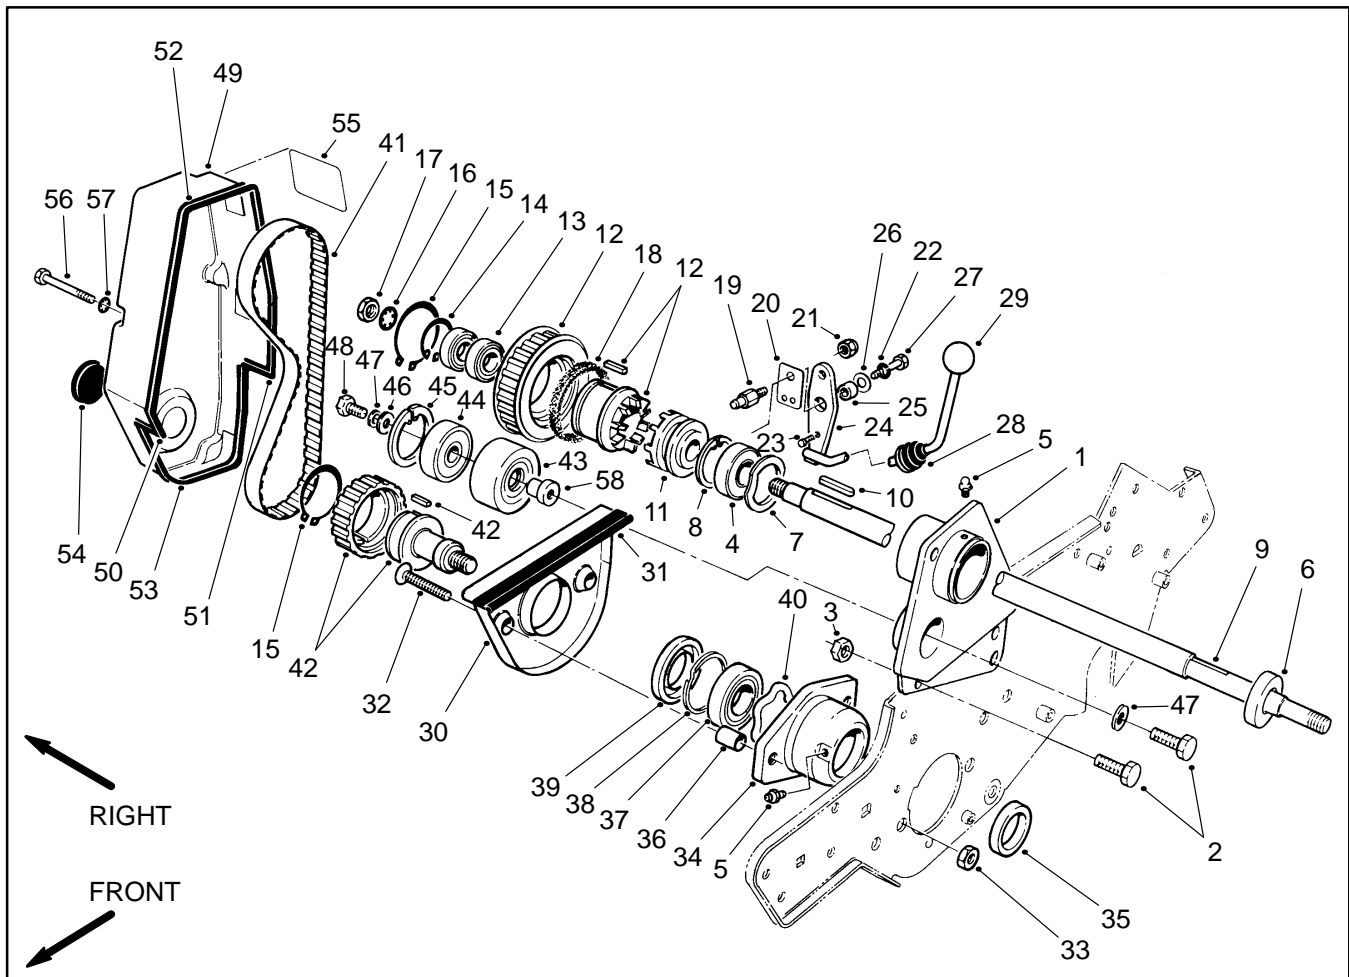
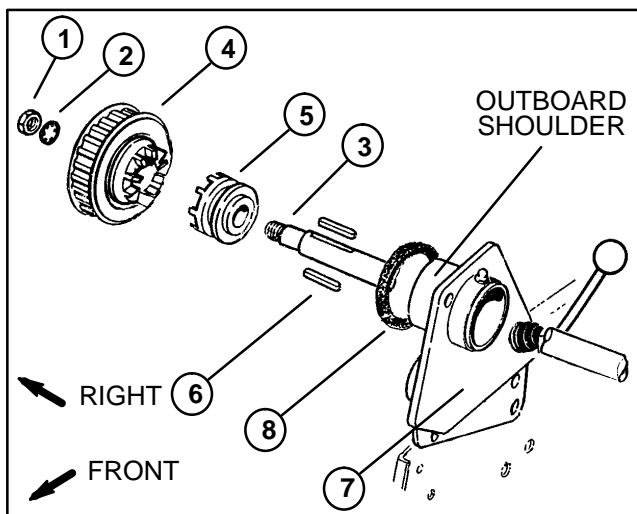

Figure 11
Figure 14
2. Remove cap screws (56), washers (57) and reel drive cover (49) to expose reel drive belt (41) (Fig. 11).
4. Loosen cap screw (2) securing the pulley support spacer (58) (Fig. 11).
2. Remove cap screw (2) and lock washer (47) from the pulley support spacer (58). Remove idler pulley assembly from the clutch housing (Fig. 11).
1. Position cap screw (2) with lock washer (47) into the clutch housing (1). Start cap screw into pulley support spacer (58) of the idler assembly until lock washer just starts to compress. **Do not over tighten (Fig. 11).**
2. Remove clutch lever (24) as follows (Fig. 11):
- A. Remove cap screw (27), lock washer (22), belle-ville washer (26), and spacer (25) from the clutch housing (1). Remove detent spring (20).
- B. Work clutch boot (28) from the clutch housing. Pull clutch lever from the clutch housing.
- C. Replace actuator pin (19) if necessary. Torque lock nut (21) from 45 to 60 in-lb (52 to 69 kg-cm).
3. Remove jam nut and lock washer from the power shaft. Pull clutch and pulley assembly from the shaft. Slide clutch jaw driver off the power shaft being careful not to lose the keys (Fig. 14).
IMPORTANT: Make sure both keys are removed from the power shaft prior to removing the clutch housing (Fig. 14).
4. Remove both cap screws (2) and lock nuts (3) securing the clutch housing (1) to the frame (Fig. 11). Slide clutch housing off the power shaft and away from the frame (Fig. 14).
Clutch Housing Disassembly (Fig. 11)
Clutch Housing Assembly (Fig. 11)
2. If the felt seal is damaged or worn, replace seal as follows (Fig. 14):
5. Tap both keys into the keyways of the power shaft. Apply Never Seize to the area of the keys and bearing journal of the clutch jaw driver (Fig. 14).
6. Place clutch jaw driver on the shaft with the jaws facing out. Align slots in the clutch jaw driver with the keys and slide into position (Fig. 14).
7. Place clutch and pulley assembly on the power shaft with the jaws facing the clutch jaw driver. Secure assembly to the shaft with the lock washer and jam nut (Fig. 14).
C. With the actuator pin engaging in the groove of the clutch jaw driver (slide driver all the way into the housing), secure cap screw into the clutch housing (Fig. 14).